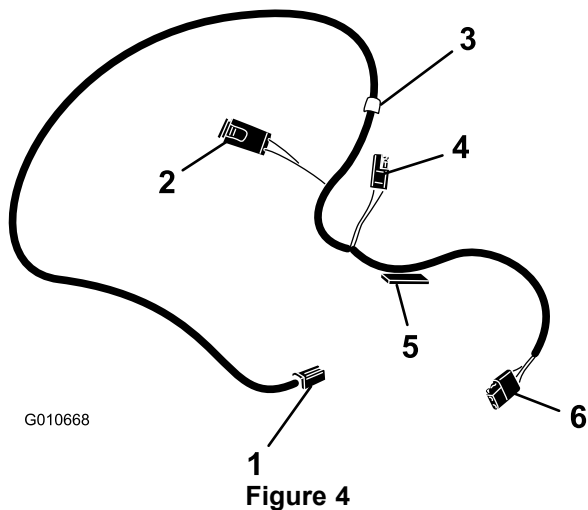

Figure 4
1. Identify the following items on the new wire harness: an adhesive tab, a white band, and four connectors: one to the fuse holder, one to the battery connector, one to the engine connector, and one to the ignition switch (Figure 4).